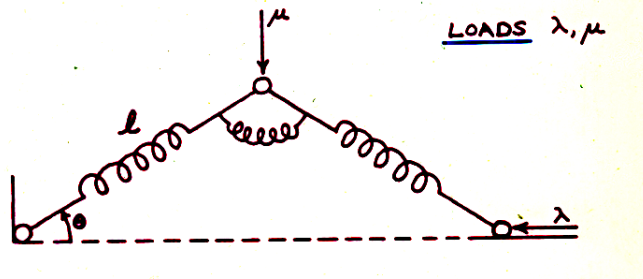

Figure 1: The Buckling Spring
1.) *The Buckling Spring*: Two straight springs and a circular spring are arranged as in Figure 1. The two straight springs are naturally of length 1, but are currently length  $L$ . The left spring has an endpoint fixed at the origin, and the angle that the left spring makes with the  $x$ -axis is  $\theta$ . The right spring endpoint is free to move horizontally.